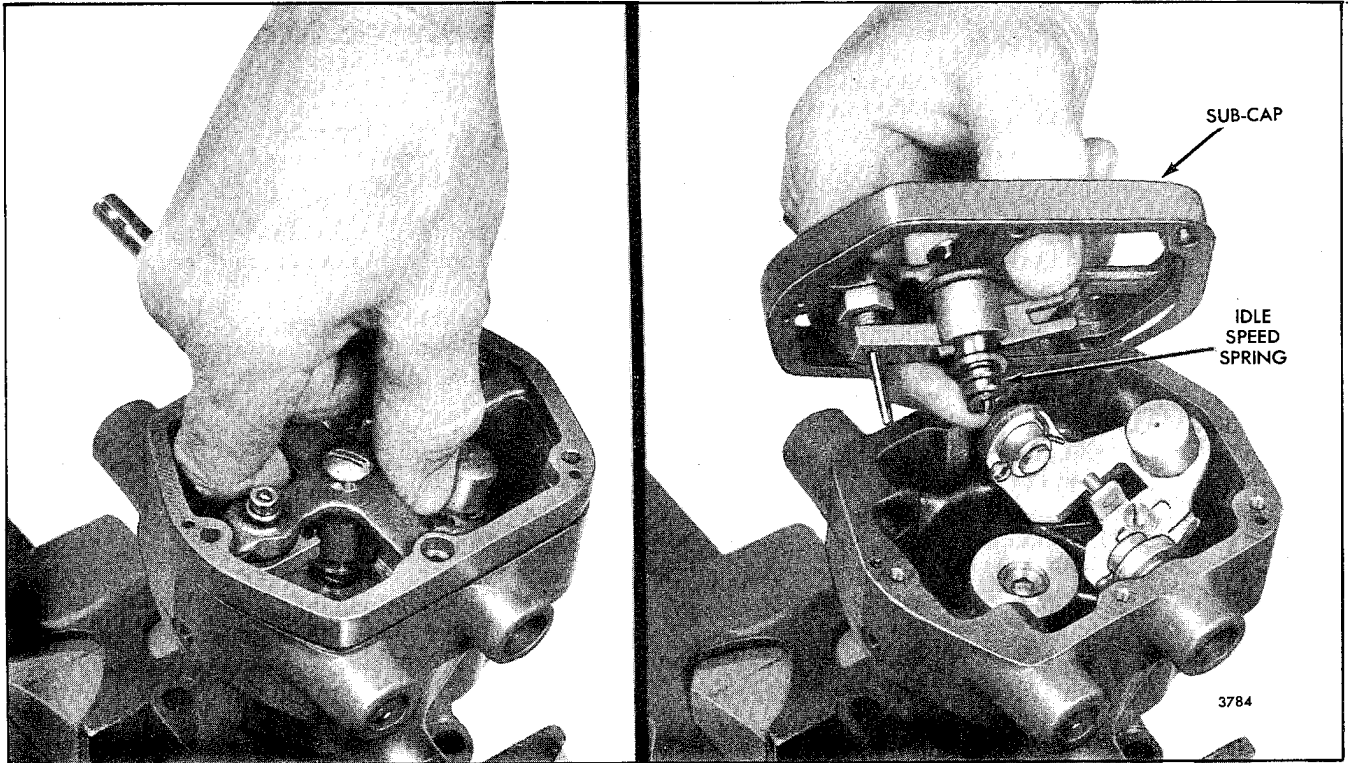

Fig. 11 - Removing or Installing Governor Sub-Cap Assembly
NOTE: Hold the idle speed spring seat or spring with your finger, as shown in Fig. 11, to prevent it from falling into the governor housing.
5. Check to make sure the idle speed adjusting pin is in position and place the idle speed spring against the spring seat. Then, holding the spring in place with your finger (Fig. 11) and holding the linkage so the pointer is near the 36° mark, install the sub-cap